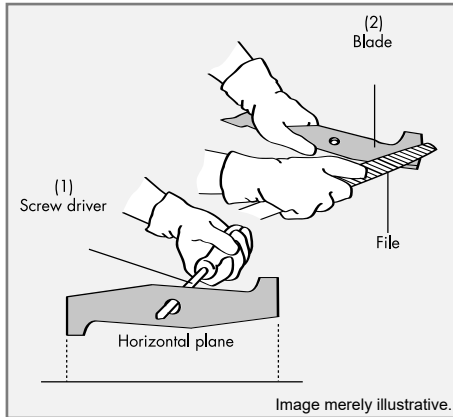

Figure 11
- ✓ To check whether the balance is right, place a screw driver in the blade hole and observe the balance. If it is not right, balance it by sharpening the blade until the removal of material leaves it balanced again (Fig. 11).
5. Make sure the blade is balanced. Use a screwdriver and keep the blade parallel to a horizontal plane, as shown in Figure 11. A balanced blade will remain parallel to the ground. If it is unbalanced, the heavy side will turn to the ground. Sharpen the heavy side until the blade is balanced.